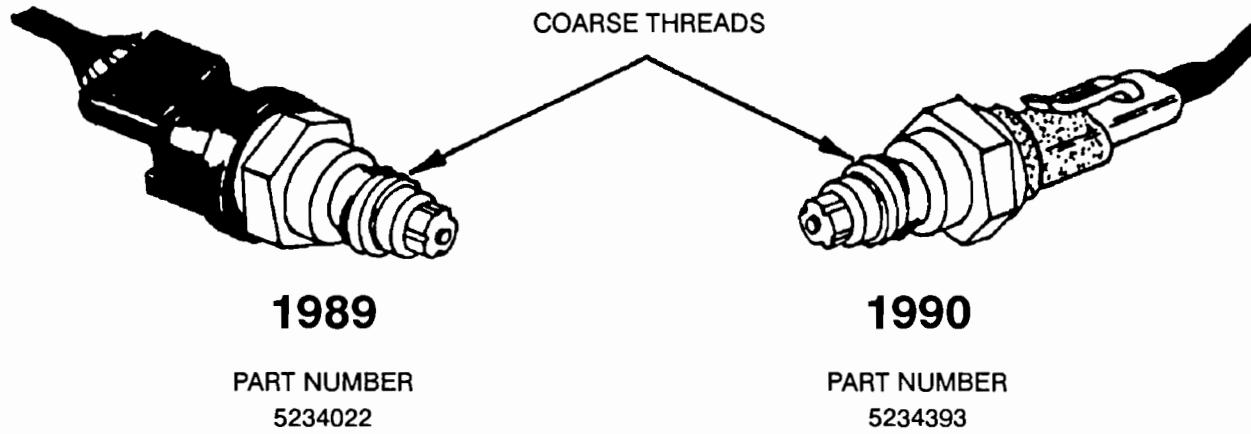

Figure 43
- (1) **PRNODL SWITCH AND CONNECTOR** - The PRNODL Switch and its wiring harness connector have changed for 1990, and can be identified visually (See Figure 43). These PRNODL Switches WILL NOT interchange with one another.
NOTE: Each of the new for 1990 switches may look similar at first glance, but the PRNODL switch features a "Coarse" thread, while the Neutral Safety Switch is black and features "Fine" threads. (See Figure 43 - 44).